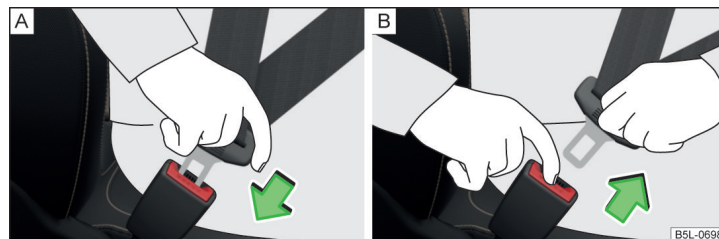

Fig. 5 Fastening/unfastening the seat belt
- Insert the lock tongue into the belt buckle » fig. 5 - [A] that is part of the seat until it clicks into place.
- Grip the lock tongue and press the red button in the buckle » fig. 5 - [B], the lock tongue pops out.